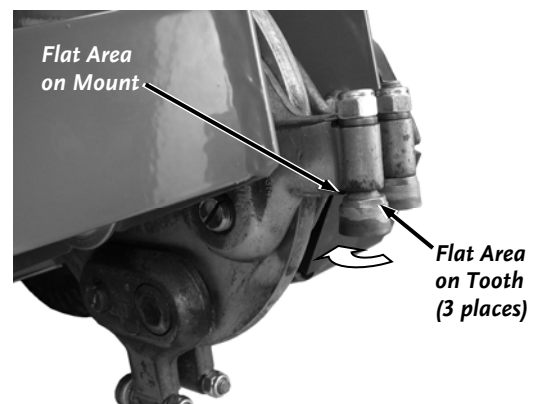

Figure 49
4. Rotate the Tooth until the next flat area on the side of the Tooth is aligned with the flat area of the Mount (**Figure 49**).